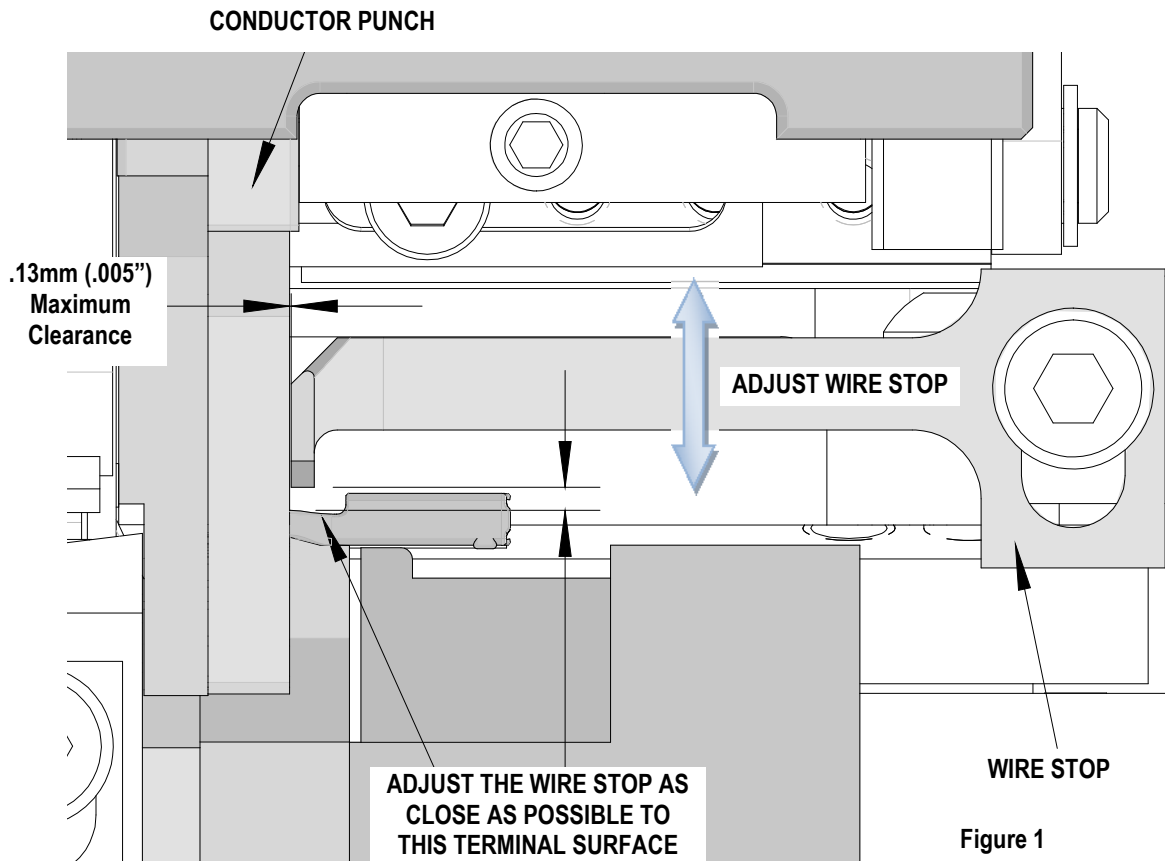

Figure 1
2. Adjust the wire stop blade down toward the terminal as close as possible to the terminal transitional surface. See Figure 1.